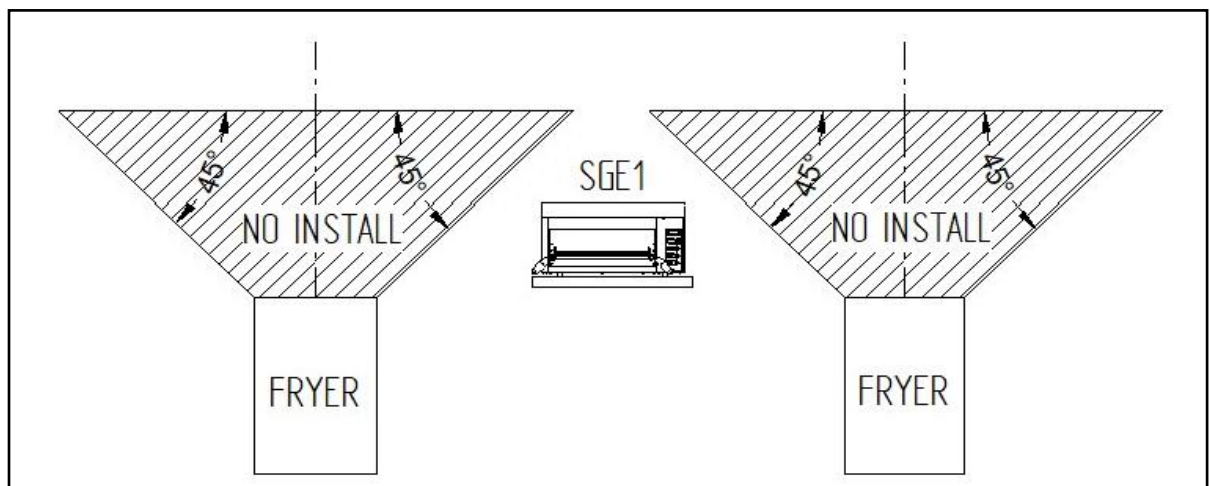

Fig 2
- Choose an install site away from major heat sources. (see Fig 2.)
- DO NOT position so that oil vapours are drawn in from fryers, grills, griddles, etc. (see Fig 2.)